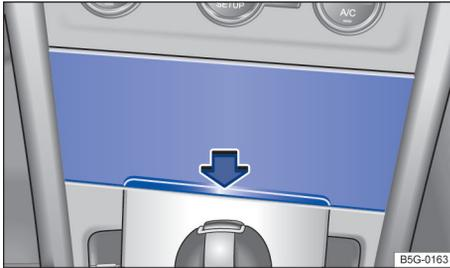

Fig. 129 In the front center console: Storage compartment.
- *To open:* Briefly press the lower edge of the cover in the direction of the arrow → fig. 129. The cover opens automatically.